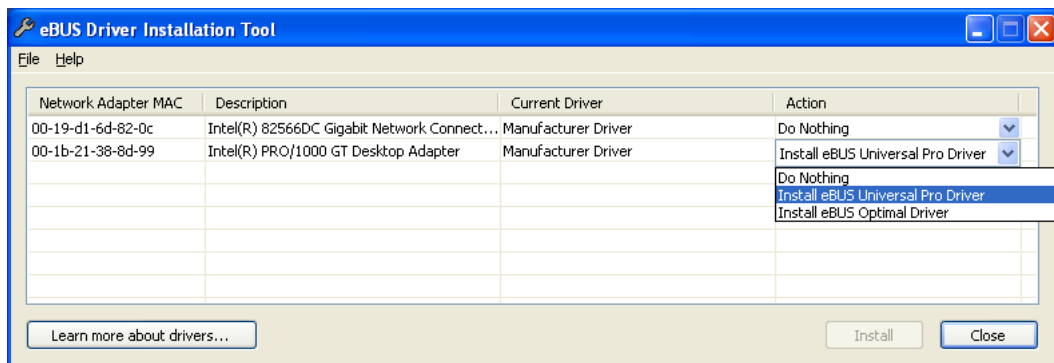

Figure 2.2: eBUS Driver Installation Tool
4. After the computer has been restarted, open the eBUS Driver Installation tool (Start -> All Programs -> eBUS SDK -> Tools -> Driver Installation Tool) (see Fig. 2.2). If there is more than one Ethernet network card installed then select the network card where your Photonfocus GigE camera is connected. In the Action drop-down list select Install eBUS Universal Pro Driver and start the installation by clicking on the Install button. Close the eBUS Driver Installation Tool after the installation has been completed. Please restart the computer if the program asks you to do so.